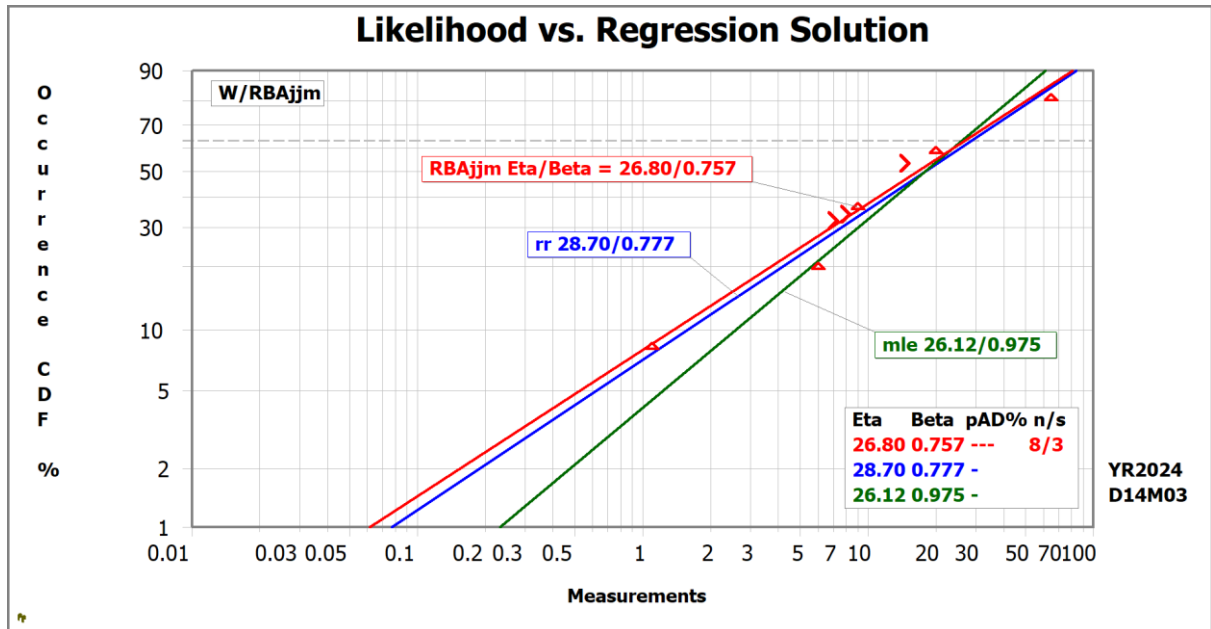

Figure 7: Comparing Rank Regression (rr), Maximum Likelihood Estimate (mle), & mle-RBA (RBAjtm)
- From the Main Screen, Home group, select Open/Import, and open the **PlayTIME-Problem-5.w** file. Select the small plot to enlarge, it should look similar to Figure 7, but with only one line plus the data points.
- Get “RBAjtm” (mmle) solution as follows: From the Main Screen, select Analysis group, Method/Input again, then select the modified maximum likelihood (mmle) icon (showing mle symbol + 2 arrowheads). “RBAjtm” should appear on the plot for solution method. If not, return to Method/Input, select “F...Fit Method...”, select “T...Modified ... mle Type Select”, then J... Weibull/Gumbel: ‘RBAjtm...’. This latest plot (Figure 7) shows RBAjtm fit (**Eta=26.80, Beta=0.757**) agreeing well with Marker Line # 1 (‘rr’).